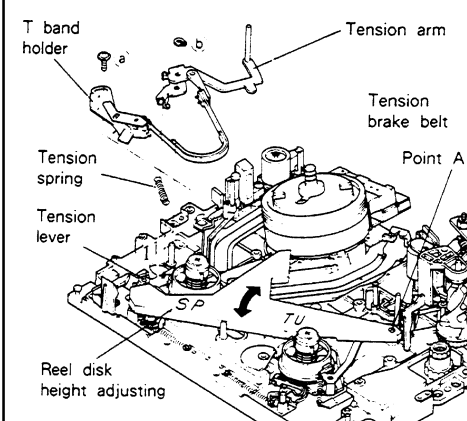

Fig. 2-10-5
- Assemble the tension arm to the shaft and secure the arm with the grip ring (b). (Refer to Fig. 2-10-5.)
- Fasten the tension spring to the tension arm and the tension lever. (Refer to Fig. 2-10-5.)
- Assemble the T band holder to the main plate with care not to score or dirty the tension brake belt, and secure the holder with the screw (a) lightly. (Refer to Fig. 2-10-5.)